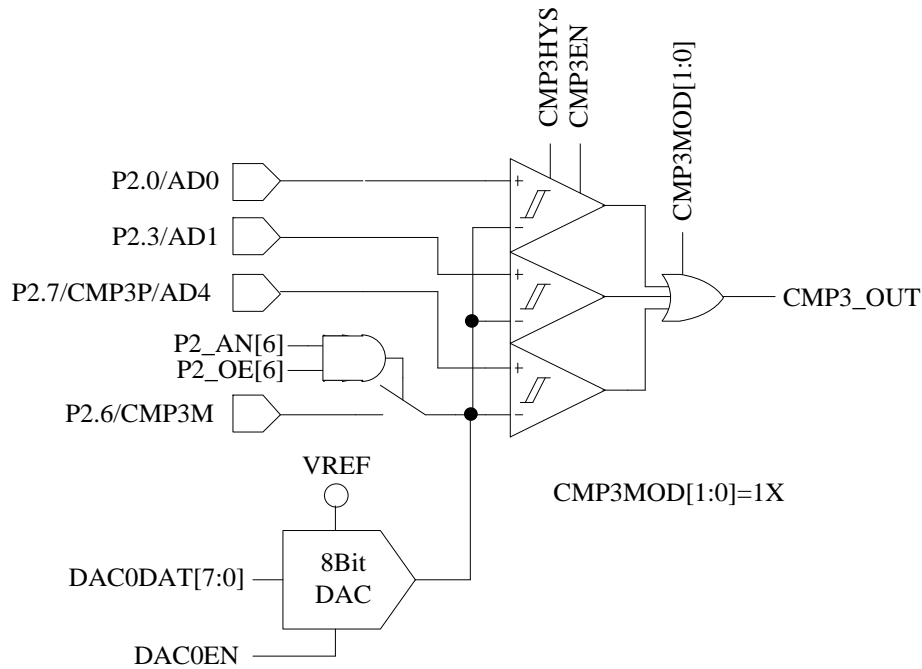

Figure 30-4 Triple-comparator Input Mode (CMP_CR1[CMP3MOD] = 1X)
- When CMP_CR1[CMP3MOD] = 1X, CMP3 works in triple-comparator input mode. The connection of input and output pins are as shown in Figure 30-4.